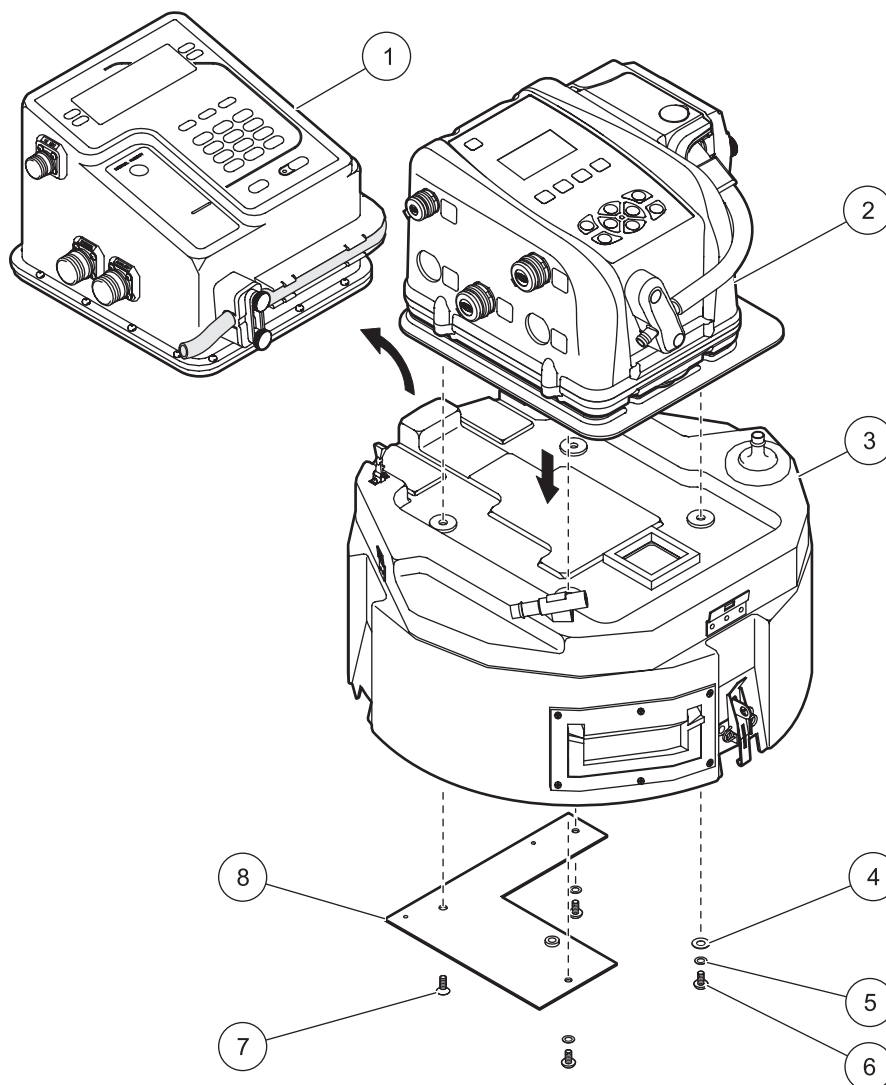

Figure 3 SD900 controller installation on the sampler center section
5. Remove the three screws from the distributor (or full bottle shut-off) mounting plate (Figure 3 on page 4). Remove the plate.
6. Remove the fourth screw that secures the controller to the center section (Figure 3).
- With the SD900 controller face down, position the center section over the controller so that the holes in the center section line up with the holes in the adapter mounting plate (Figure 3).
- Insert the remaining three screws with lock washers to secure the SD900 controller to the center section (Figure 3).